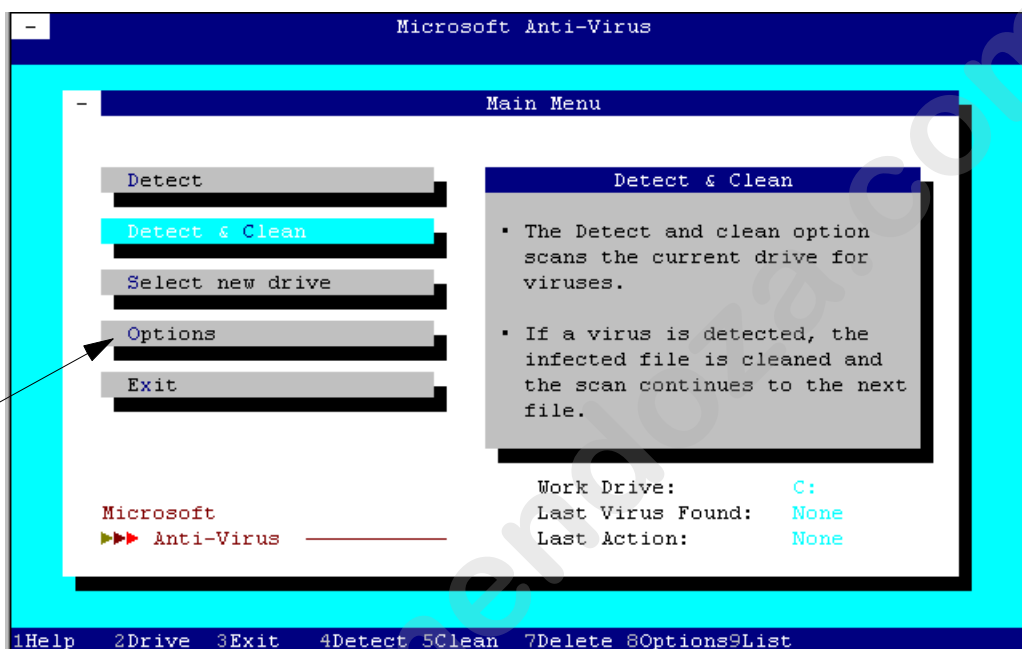

Figure A.21 Microsoft Anti-Virus Program
2. At the DOS prompt, enter MSAV. This starts the **Microsoft Anti-Virus** program. Refer to Figure A.21
3. Click the **Options** button (Figure A.21). This brings up the **Options Setting** dialogue box.
- Click the **Select new drive** button (Figure A.21). The available drives will appear below the title bar.